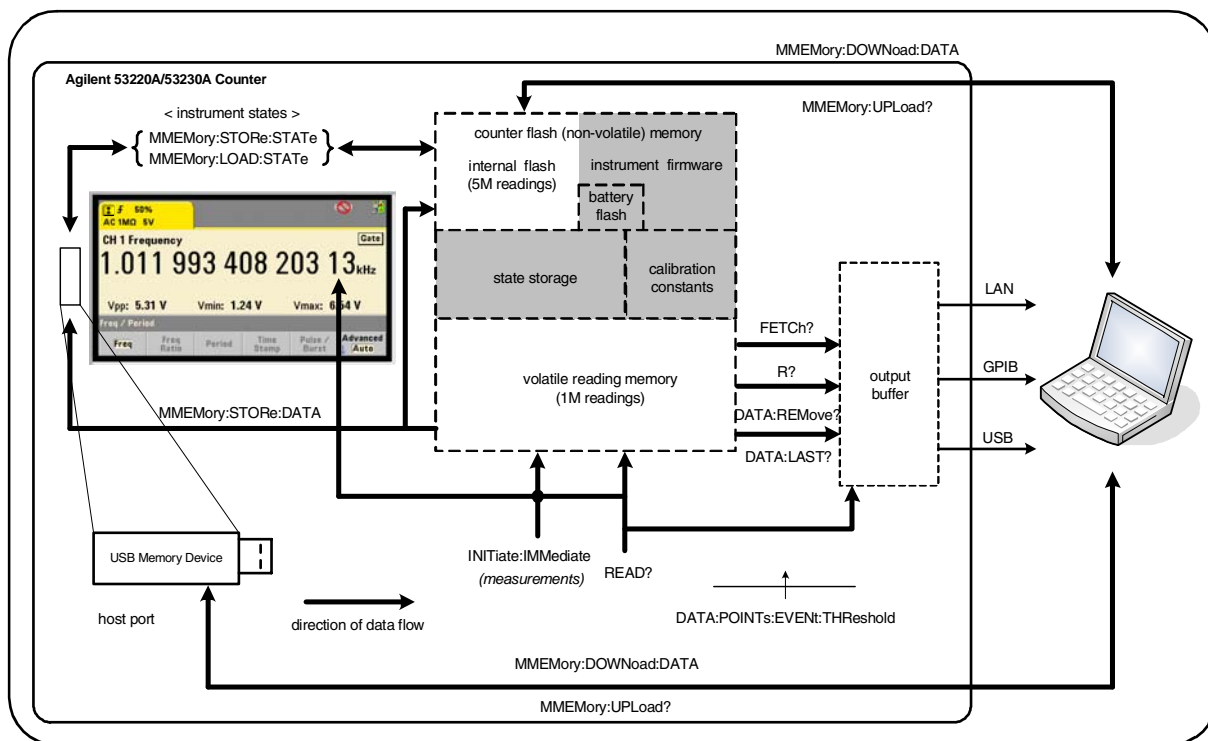

Figure 7-1. Data Flow within the 53220A/53230A Counter.
The flow of measurement data within the counter is summarized in Figure 7-1.
Counter measurements taken from the **front panel** or from an IO interface appear in the display as indicated in Figure 7-1. See Chapter 1 for an overview of display features.
In addition to being displayed, all counter readings are stored in the counter's **volatile reading memory** (Figure 7-1). Memory capacity is 1,000,000 readings. Reading memory has the following attributes:
Data is available to the PC over the LAN, USB, and GPIB interfaces once it is in the output buffer (Figure 7-1). The following section explains how readings are transferred from memory to the buffer. If during a transfer the **output buffer** fills, command execution is paused until readings are removed by the PC - creating room in the buffer. No readings are lost.
**READ?** - is equivalent to executing INITiate:IMMediate directly followed by FETCh?. With READ?, once **all** readings specified by TRIGger:COUNT and SAMPlE:COUNT are complete and in memory, they are instantaneously read into the **output buffer** (Figure 7-1).